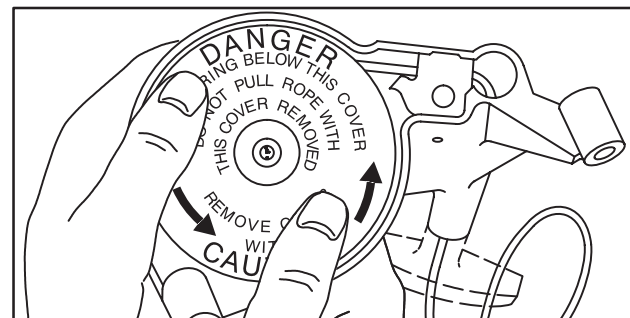

Fig. 632 – RETRACTING ROPE
- Rotate pulley in a counterclockwise direction until rope is fully retrieved, Fig. 632.